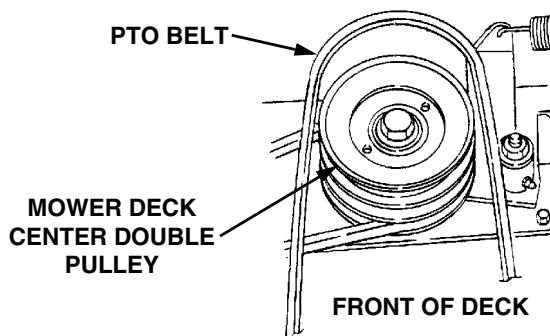

Figure 37
14. Install the rearward end of the PTO belt on the upper pulley of the deck center double-pulley (Refer to Figure 37). Ensure that the narrow side of the belt engages the groove of the upper pulley, and that there is no more than a 1/4 twist in the belt between the front pulleys and the double pulley.